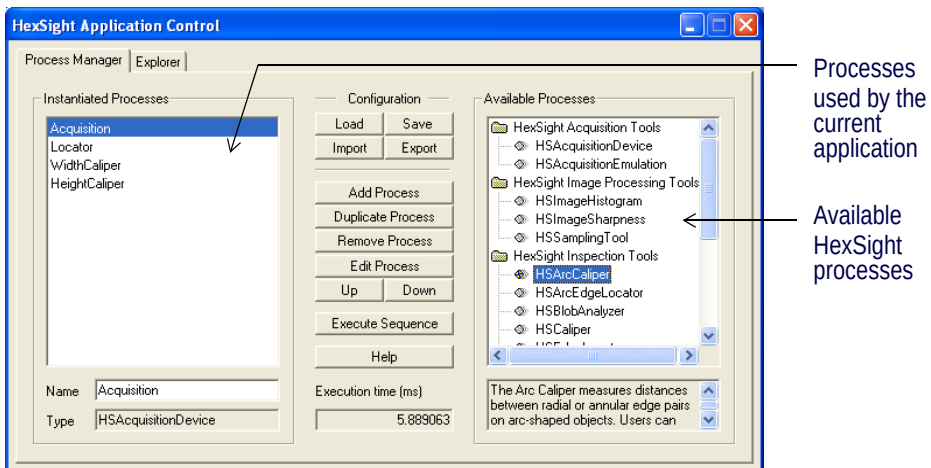

Figure 3 Process Manager
3. Right-click the HexSight Application Control in the form and select **Edit** to display the Process Manager as shown in Figure 3. The Process Manager is used to instantiate and configure the sequence of processes.